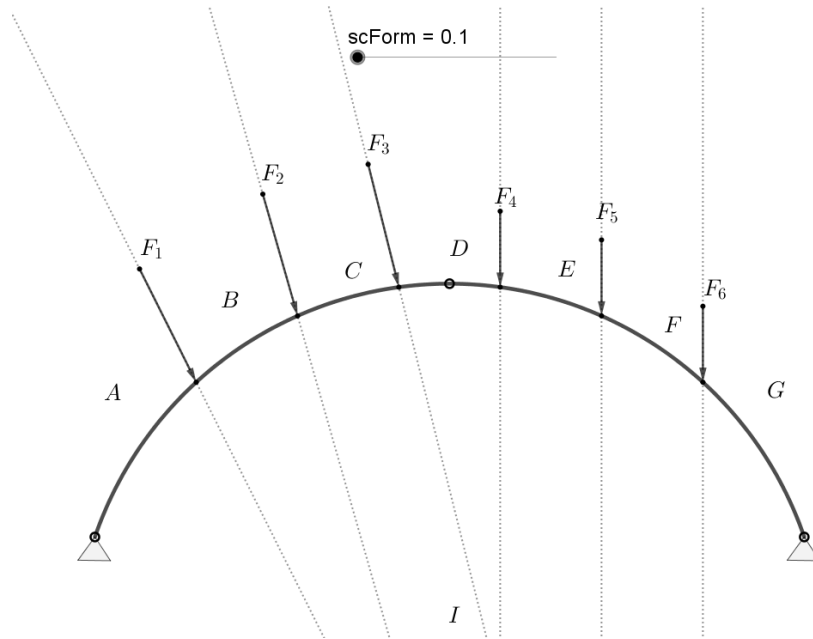

Fig.3. Arch
- In file the "Arch.ggb" a three-hinged arch is provided, see Fig.3. The loads are given in kN and are multiplied with the factor scForm.